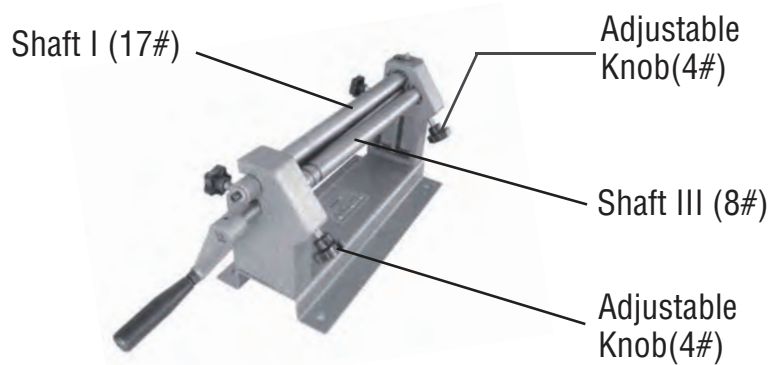

Figure 2
2. To increase the gap between Shaft I (17#) and Shaft III (8#) to increase the diameter of your rolls, screw out the Adjustable Knob(4#). For smaller diameter rolls, screw the Knob in. For even rolls, adjust both Knobs an equal amount. To create cones, adjust one side more than the other. **See Figure 2.**